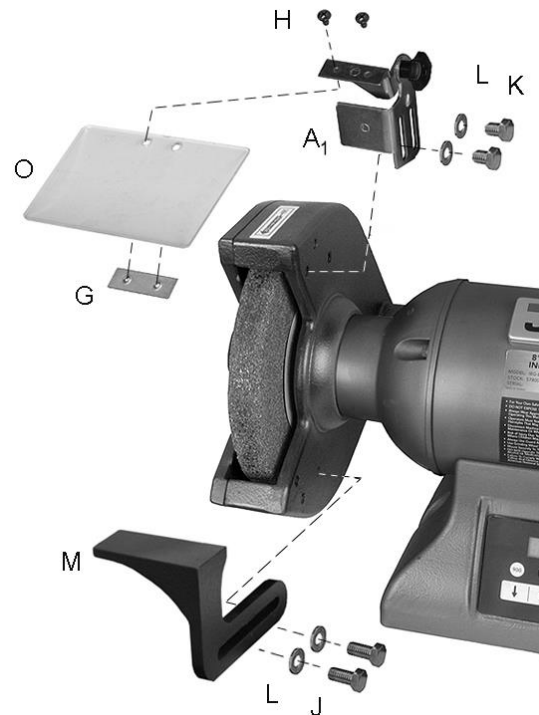

Figure 5-3: guards and tool rests
Refer to Figure 5-3.
**Note:** There is a *left* and a *right* tool rest. Refer to Figure 5-3 for proper orientation.
1. Install the left tool rest (M) by inserting two 3/8" x 3/4" hex cap screws (J) through two 3/8" flat washers (L), through the tool rest (M), into the wheel housing.